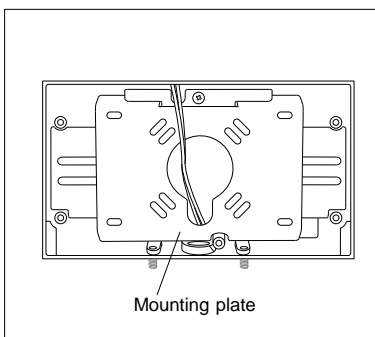

Figure 2
2. After loosening the mounting plate set screws, remove the mounting plate from the back of the luminaire housing (see Figure 2).